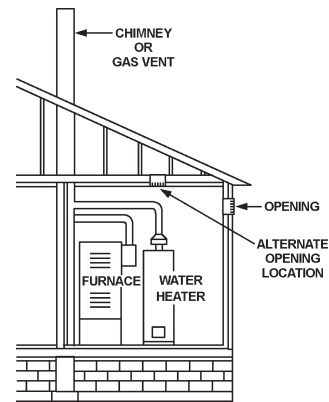

FIGURE 7.
- Alternatively a single permanent opening may be used when communicating directly with the outdoors, or with spaces that freely communicate with the outdoors. The opening shall have a minimum free area of 1 square inch per 3,000 BTU per hour (8.3 cm²/kW) of total input rating of all equipment in enclosure. See Figure 7.